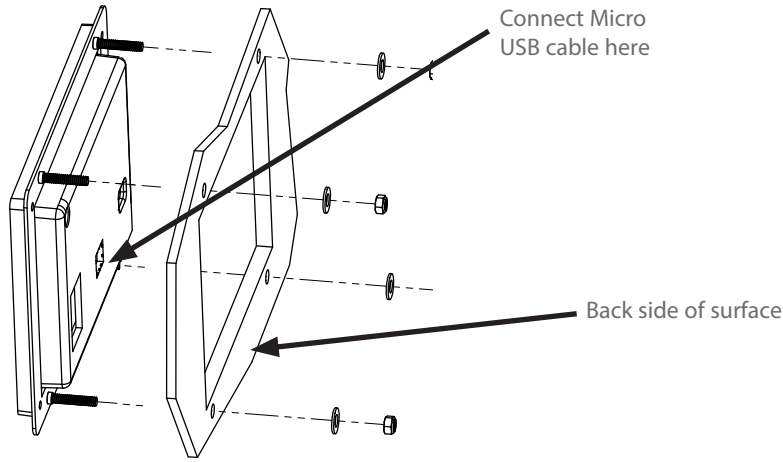
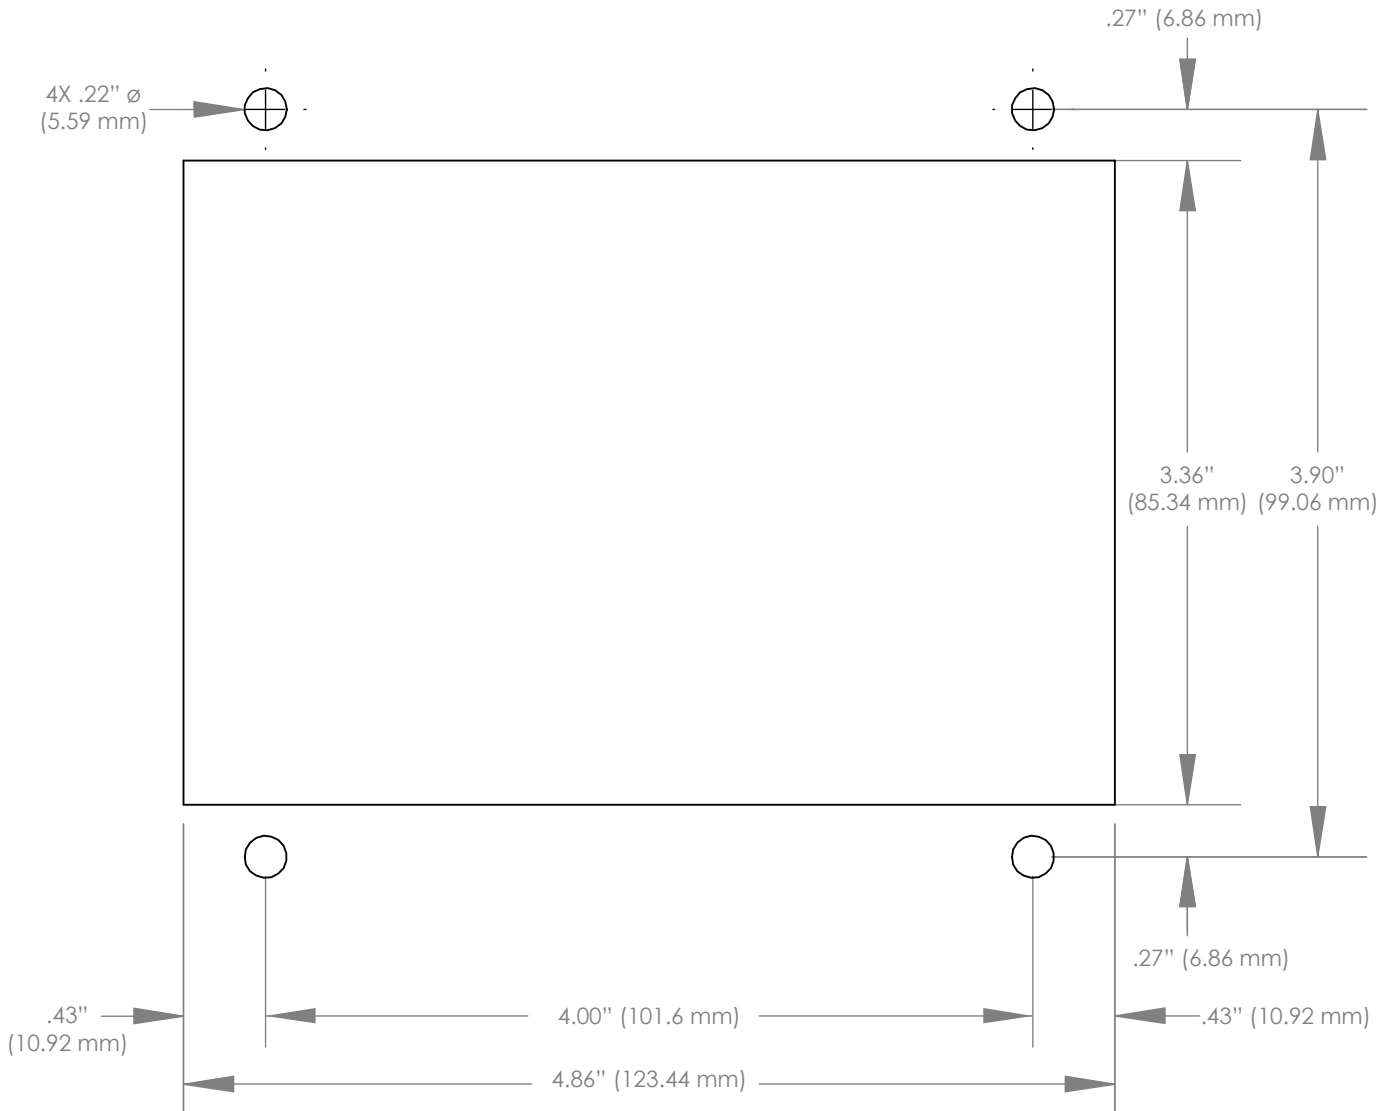

Figure 7: Control Box Installation
Figure 8: Control Box Cutout Dimensions
4. Connect the other end of the Micro USB cable to the control box (Figure 7, page 5) and install the control box using the cutout dimensions in Figure 8 (page 5).